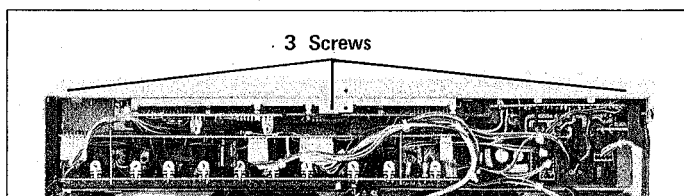

Figure 39-3
1. Remove the 7 screws retaining the front panel, then the front panel can be detached by pulling it toward you. (Refer to Figures 39-3 and 39-4).